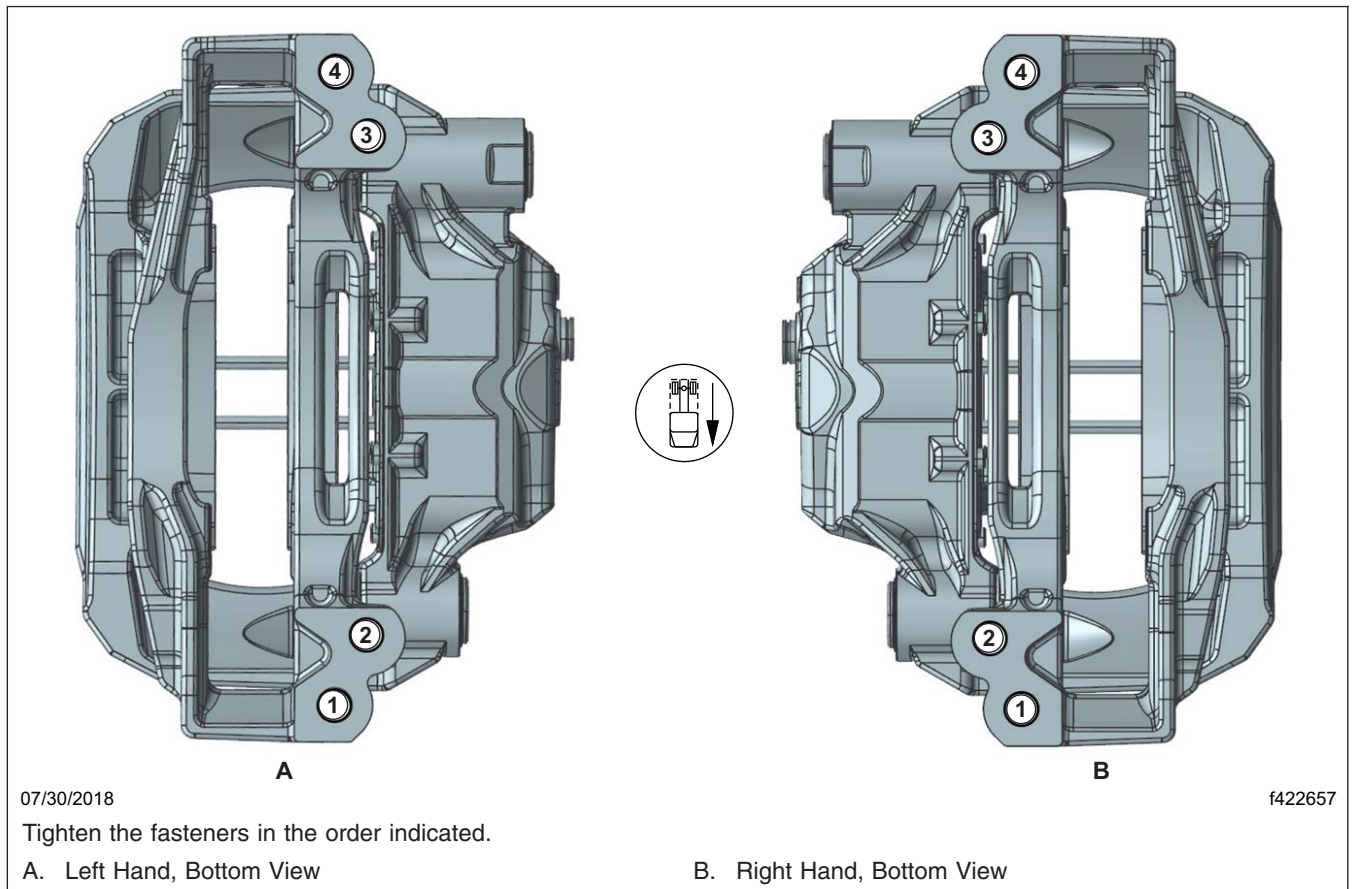

Fig. 14, Wabco Maxxus Radial Mounted Caliper Tightening Pattern
4. Set a torque wrench to 273 lbf-ft (370 N-m) and tighten the caliper mounting bolts following the tightening pattern shown in **Fig. 14**. If they do not turn, no further work is needed. If they turn, take the vehicle to an authorized Freightliner dealer to have all of the caliper bolts on that wheel end replaced.